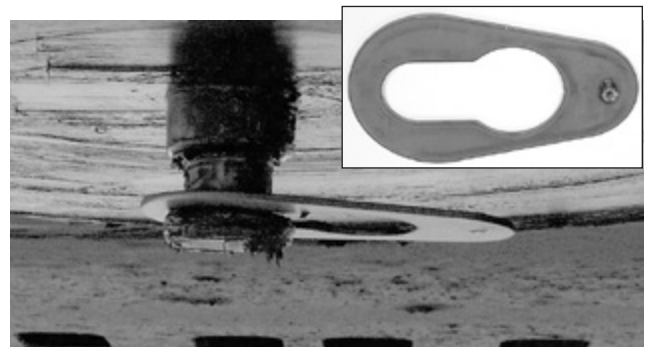
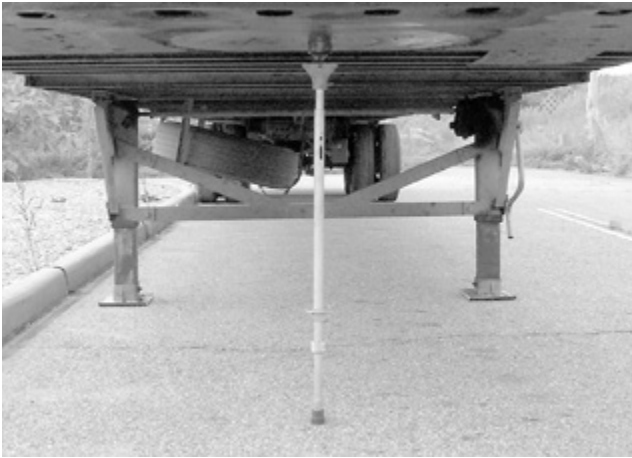

Figure 18: *Kingpin adapter*
Figure 19: Kingpin extender
- A. If this sightline is free from under-trailer obstructions that would interfere with a measurement (i.e., landing legs, trailer frame, tool boxes, etc.), then the kingpin adapter (Figure 18) can be used to make the measurement in Step 5.
- B. If this sightline is obstructed, then the kingpin extender or pogo stick (Figure 19) must be used to lower the connection for the measurement in Step 5.
2. **Place** kingpin adapter (Figure 18) or kingpin extender (Figure 19) onto the kingpin.